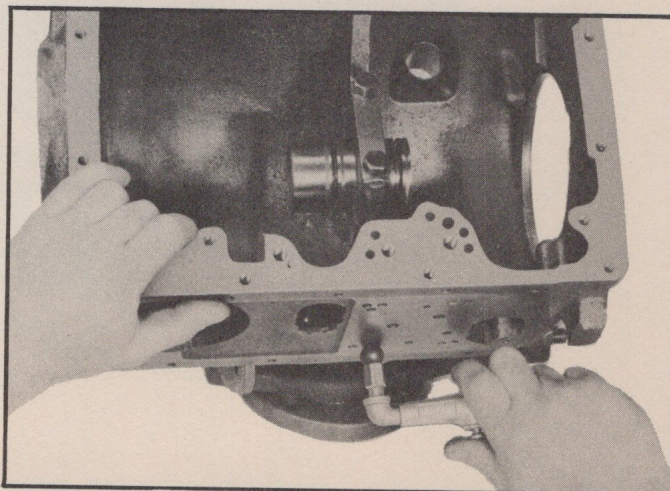

Fig. 190—Testing Oil Delivery Sleeve for Leaks
9. Install oil delivery sleeve with dowel hole toward case and tighten cap with dowel in one of the two oil holes. Apply oil on each side of bearing cap. Apply air pressure to two clutch holes in side of case (Fig. 190). If movement of oil on delivery sleeve is observed, leakage is indicated. Attempt correction by installing a new oil delivery sleeve. If new sleeve leaks dress bearing cap down with fine emery cloth on surface plate until sleeve does not leak.